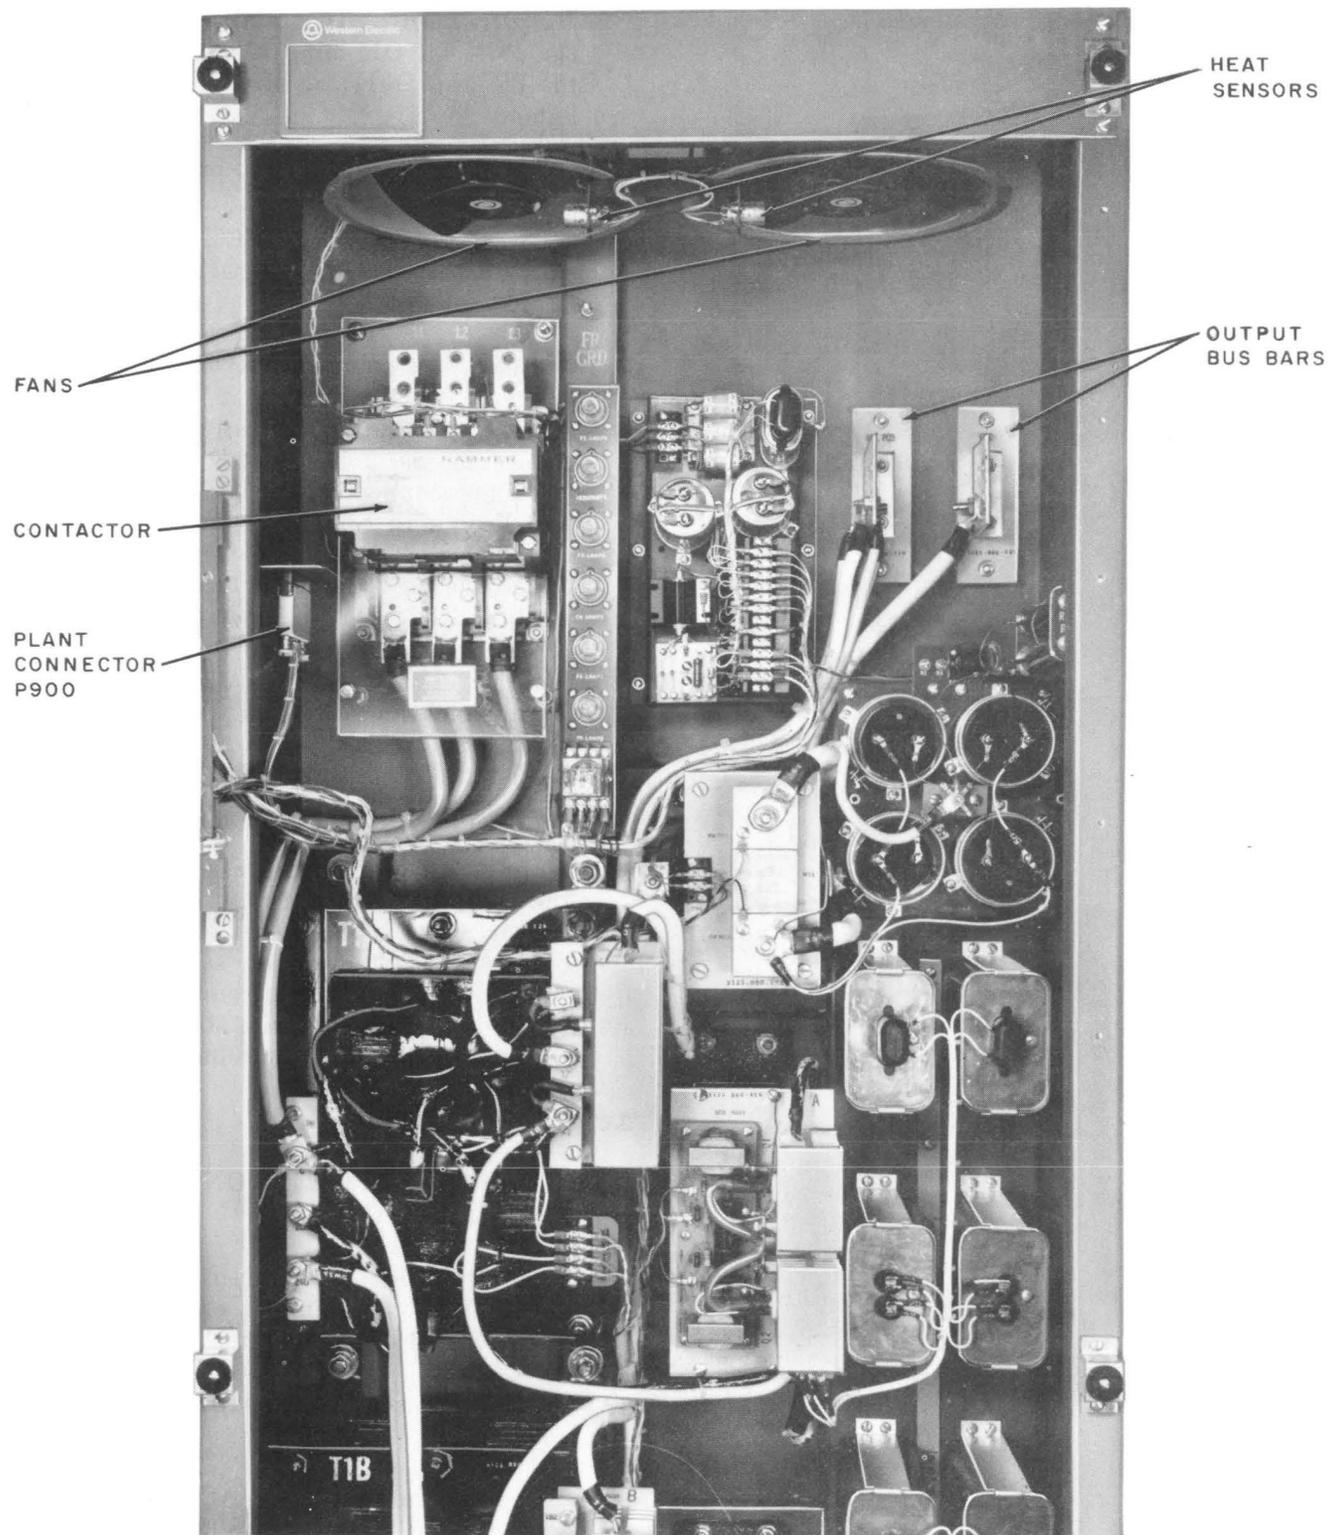

Fig. 2—KS-21113 L1 Rectifier—415A Power Plant—Top Partial View With Cover Removed
- (h) Disconnect the plant connector P900 (Fig. 2).